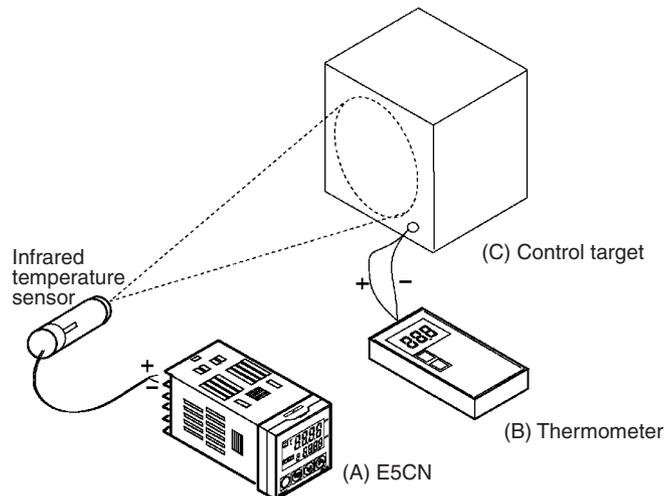

Figure 1 Configuration When Compensating an Infrared Temperature Sensor
2. Prepare a thermometer capable of measuring the temperature of the control target as shown in Figure 1 so that 1-point shift or 2-point shift can be carried out.
1. In the configuration shown in Figure 1, bring the set point to near the value at which the temperature of the control target is to be controlled. Let's assume that the control target temperature (C) and the control target temperature (B) are matching.
2. Check the control target temperature (B) and the controller readout (A). Take the following value as the input shift value, and set the same numerical values to "L_{NSL}" and "L_{NSH}".